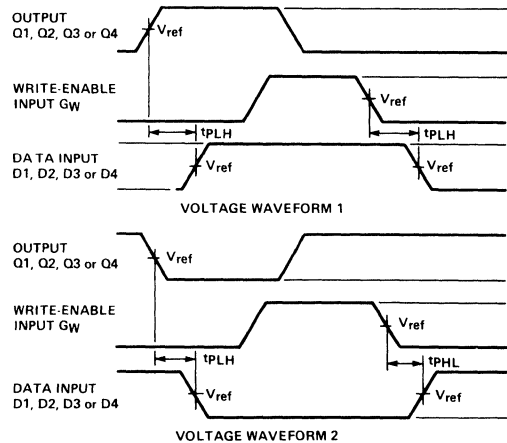

FIGURE 2
- In Figure 2, each select address is tested. Prior to the start of each of the above tests, both write and read address inputs are stabilized with  $W_A = R_A$  and  $W_B = R_B$ . During the test  $G_R$  is low.